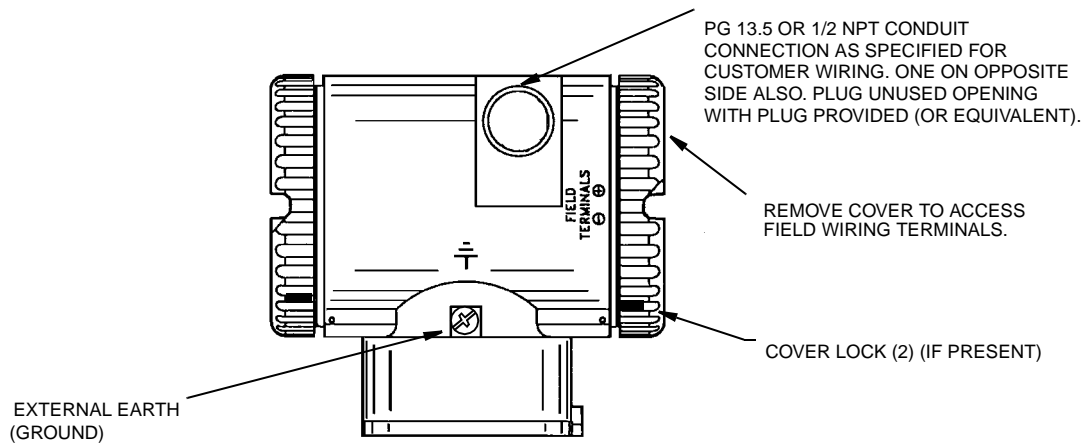
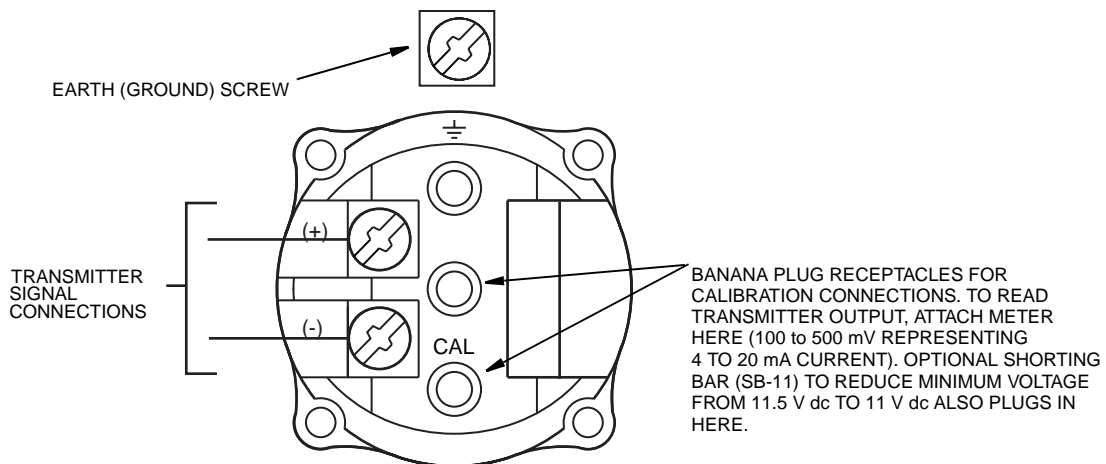

Figure 8. Accessing Field Terminals
Figure 9. Identification of Field Terminals
The banana plug receptacles (designated CAL) can be used to check transmitter output of the GPIDP-A. Measurements should be 100 to 500 mV dc for 0 to 100% transmitter output. Refer to Figure 9.
Electronic housing cover locks, shown in Figure 8, are provided as standard with certain agency certifications and as part of the Custody Transfer Lock and Seal option.
For access to the field terminals, thread the cover lock (if present) into the housing to clear the threaded cover and remove the cover from the field terminals compartment as shown in Figure 8. Note that the embossed letters **FIELD TERMINALS** identify the proper compartment. Identification of terminals is shown in Figure 9.
6. Connect the power supply and receiver loop wires to the “+” and “-” terminal connections shown in Figure 9.
2. Run the supply voltage and output wires (0.50 mm² or 20 AWG, typical) through one of the transmitter conduit connections as shown in Figure 8. If four-wire connection is used, use twisted single pair on the output side to protect the 1 to 5 V dc output from electrical noise.